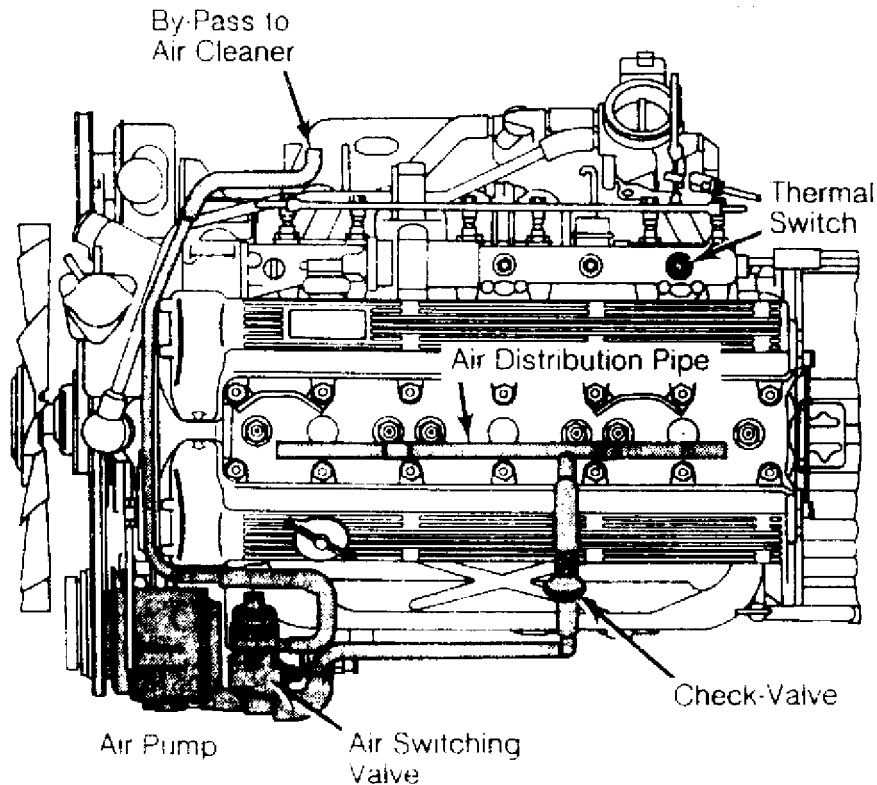

Fig. 4: Testing Air Conditioner Solenoid Valve
1) Disconnect vacuum sensing tubes from solenoid valve and vacuum port (rear of valve). Blow through vacuum hose and ensure air passes through valve and escapes from air filter. See Fig. 4.
2) Disconnect solenoid valve electrical connector and apply battery power to terminals. Blow through hose again. Air should pass through valve and escape from rear port. See Fig. 4. If valve does not respond as outlined, perform signal check.